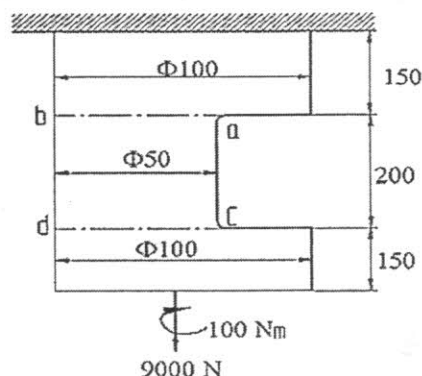

Figure. Q2(a)
2. a) A steel member is loaded as shown in Figure. Q2(a). Determine the magnitude of (i) Maximum normal stress (ii) Minimum normal stress (iii) Maximum shear stress. Interpret the results obtained.